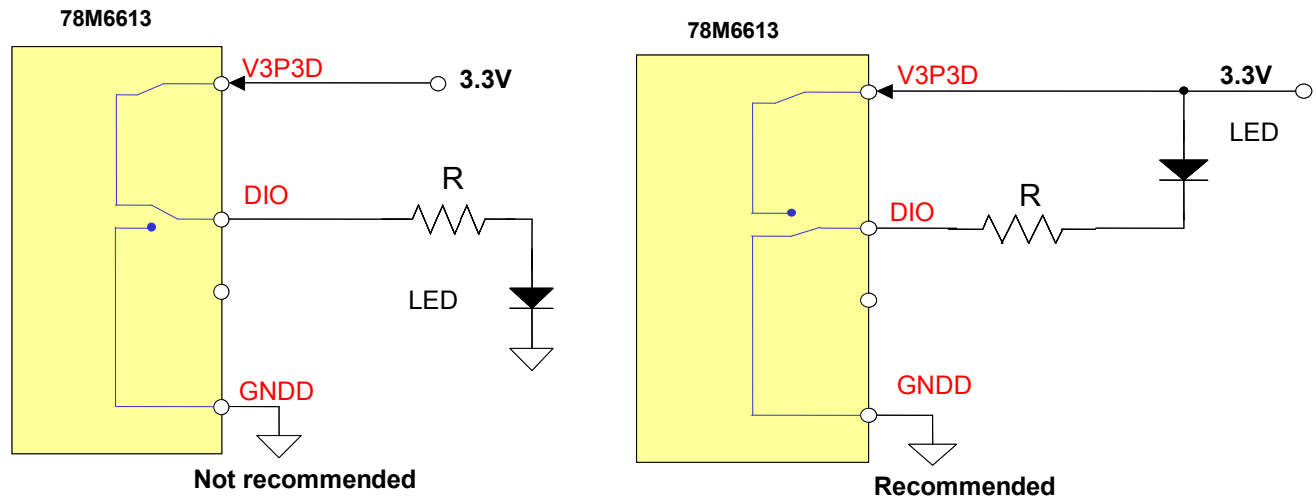

Figure 3: Connecting an External Load to DIO Pins
**⊘** *When driving LEDs, relay coils etc., the DIO pins should sink the current into ground (as shown in Figure 3, right), not source it from V3P3 (as in Figure 3, left).*